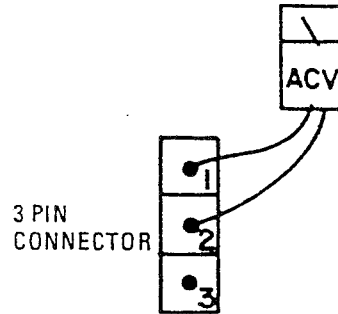

Figure 5-17. Back View Connector C'
3. Use a voltmeter capable of measuring 120 VAC and measure the following connector pins in connector C'. See figure 5-17.
3. Use the R x 100 scale of the ohmmeter and touch pins 2 and 3 of connector C'. See figure 5-17.